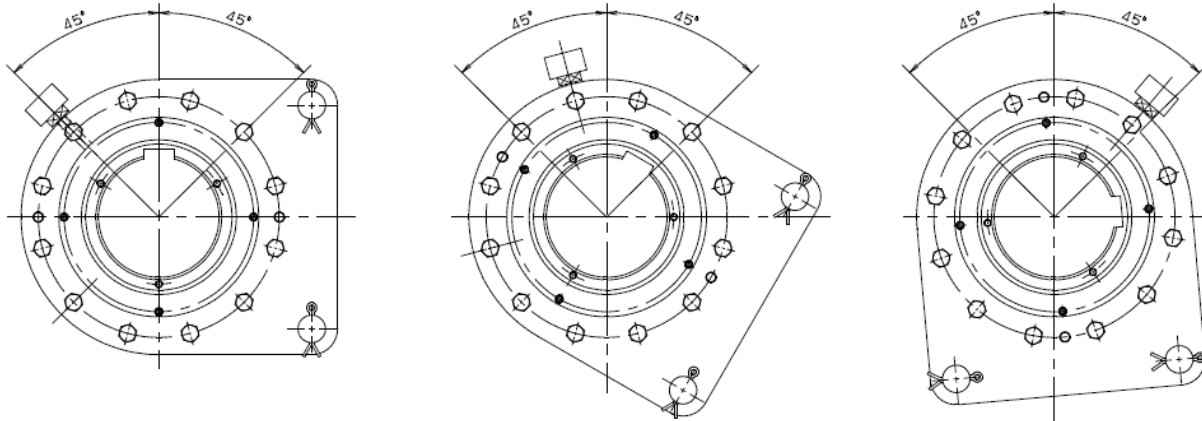

Fig 4
- 45 degree or less from 12:00 O'clock. See Fig 4.